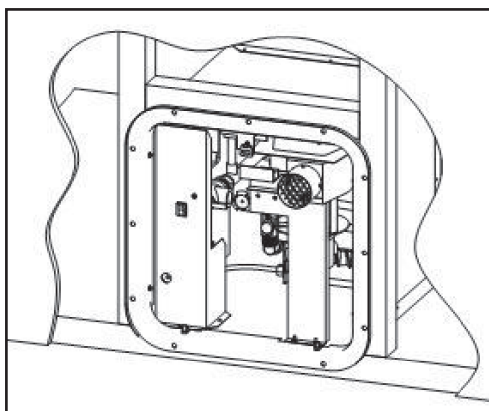

Figure 4
6. Secure water heater housing unit to the vehicle using No.8 – 3/4" flat head screws through each hole in the door flange (Figure 4). Verify that a tight seal exists between the side wall and the flange. If not, repeat above steps.